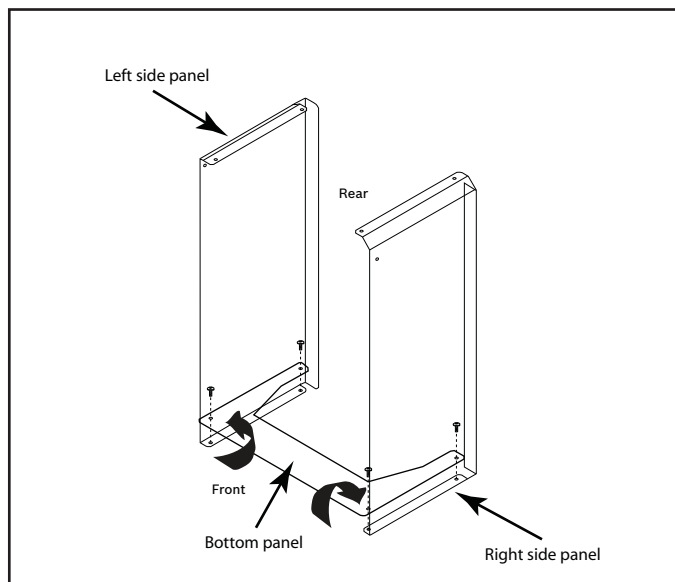

Fig. 6 Bottom panel installation
8. Using four machine screws, mount the bottom panel on the inside of the flanges with the opening facing the wall. See Fig. 6.